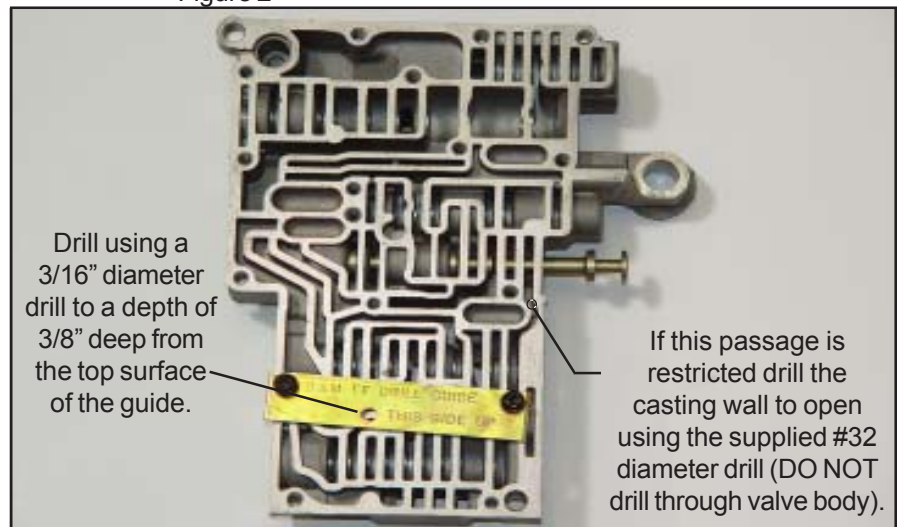

Figure 3
STEP 3. Install the supplied B&M drill guide as shown in figure 3. Wrap masking tape 3/8" above the tip of the supplied 3/16" diameter drill to use as a drill guide stop. Then drill through the hole in the guide keeping in mind the casting wall will be removed; but DO NOT drill through the valve body. If the indicated passage has a restrictor, drill the passage clear with the supplied #32 (.116 diameter) drill (See Figure 3).